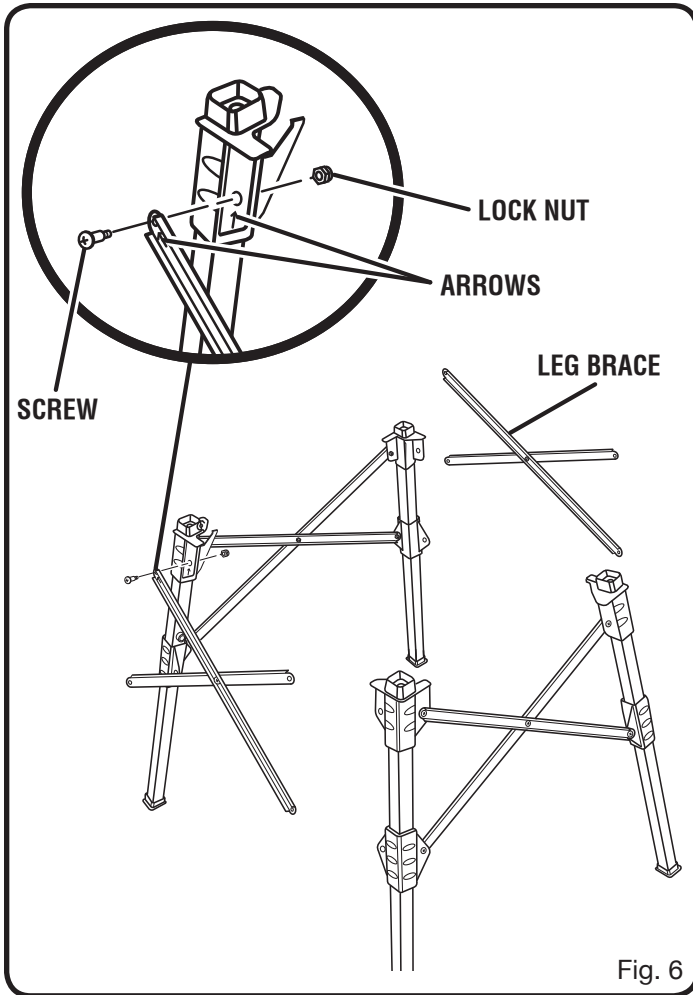

Fig. 6
See Figures 6 - 7.
- Match arrows on the top end of the leg brace with the arrows on the top of the stand leg as shown in figure 6.